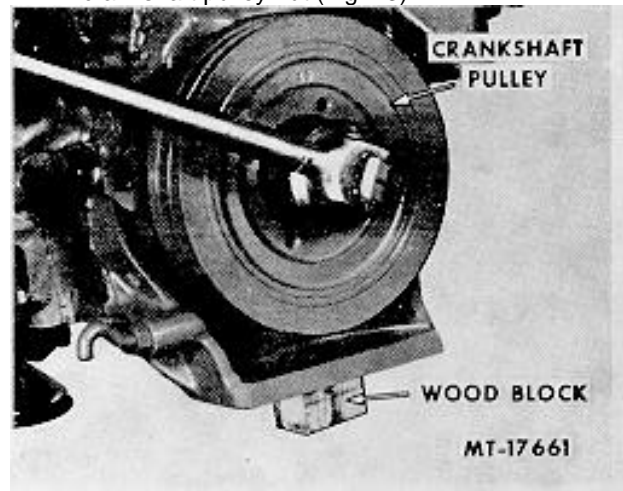

Fig. 43
46. Position a wood block between the crankshaft counterweight and crankcase and remove crankshaft pulley nut (Fig. 43).